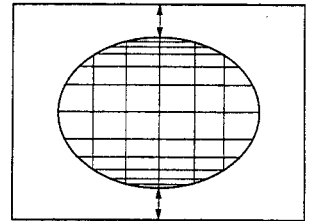

fig. 4
- d) Adjust the S-correction to obtain a balance between upper, lower and center (fig. 4).